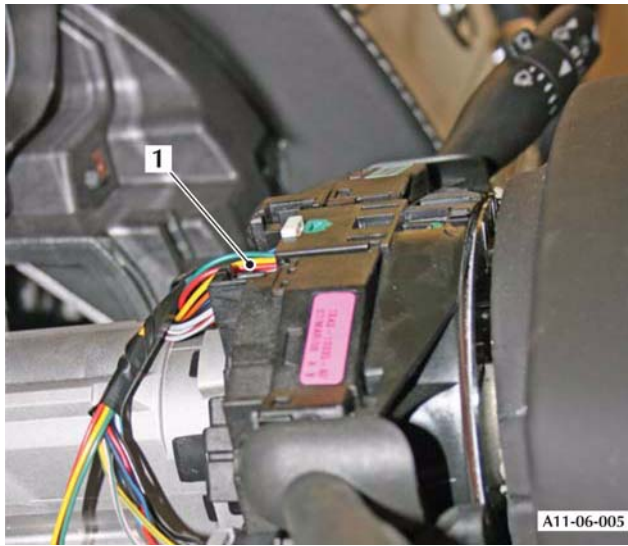

Figure 7
21. Remove the electrical connector (1) from the rotary coupler (Refer to Figure 7).